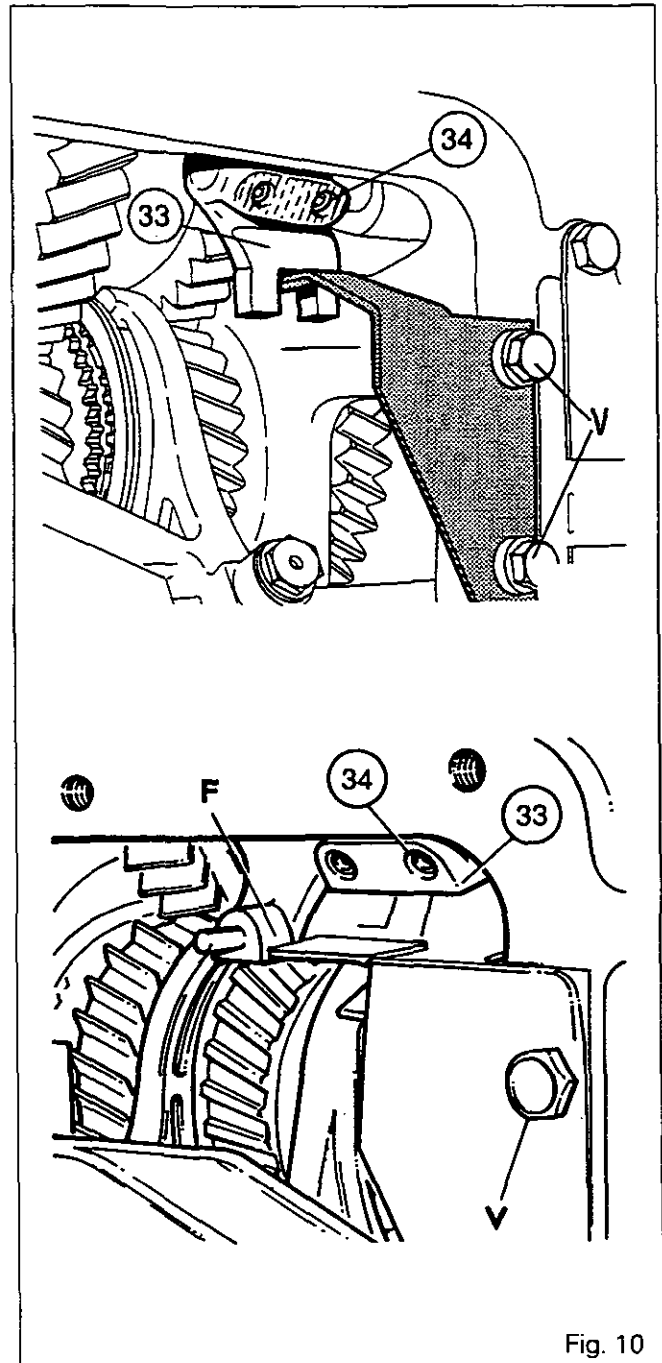

Fig. 10
58. Adjust the reverse selector (Fig. 10). Position the selector (33) at the neutral point. Fit and tighten tool 3778054M1 with bolts «V». Coat the screws (34) with Loctite 221. Bring face «F» of the selector into contact with the tool by means of screws (34).